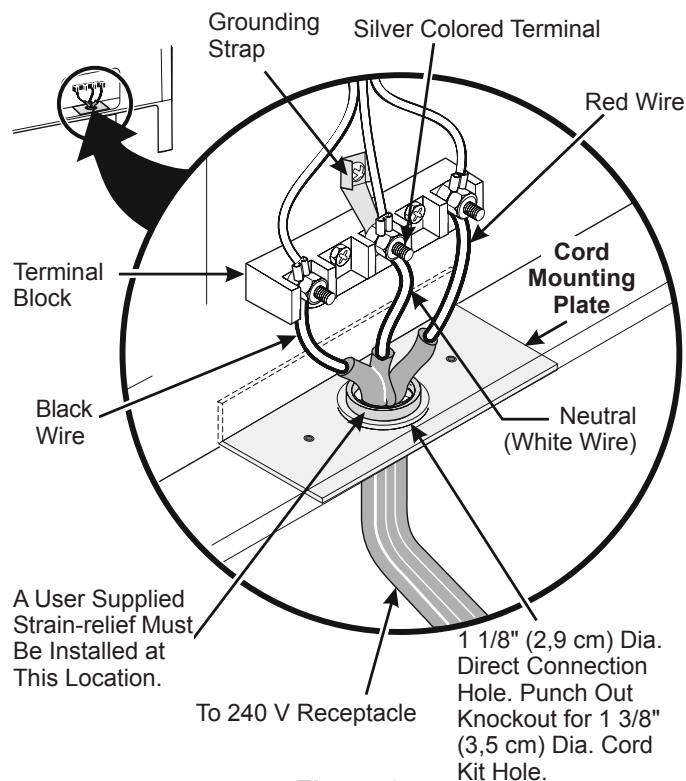

Figure 3
**NOTE:** Electric Slide-in Range is shipped from factory with 1 1/8" (2.9 cm) dia. hole as shown on figure 3. If a larger hole is required, punch out the knockout.
**If local codes permit connection of the frame grounding conductor to the neutral wire of the copper power supply cord (see Figure 3):**